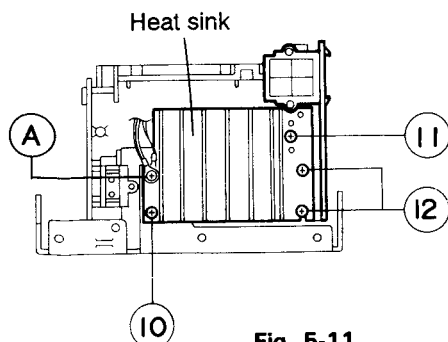

Fig. 5-11
5. Remove the screw ④ securing the heat sink to remove the ground wire from the LCD/System microcomputer board assembly (Fig. 5-11).
### ◆ Removing the power amplifier board (Fig. 5-11).
(Fig. 5-11).